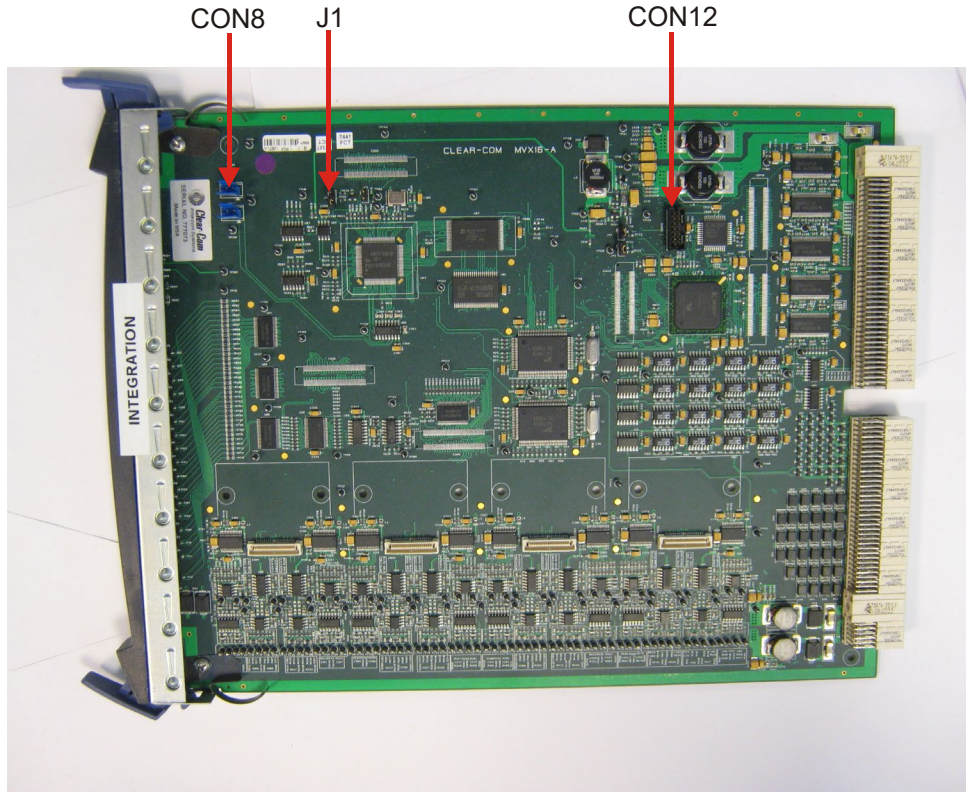

Figure 7-2: MVX-A16 MK I card: J1, CON8 and CON12
The MK 1 MVX-A16 card is **green**. – see **Figure 7-2: MVX-A16 MK I card: J1, CON8 and CON12**
Tip: For the location of connectors and jumpers on the MVX-A16 MK I card, see **Figure 7-2: MVX-A16 MK I card: J1, CON8 and CON12**
- Connect the MVX serial cable (CAB-MVX-48Z) to the **CON8** connector on the MVX-A16 card and to the PC (see **Figure 7-2: MVX-A16 MK I card: J1, CON8 and CON12**).
3. Connect the **14way IDC header** to **CON12** (see **Figure 7-2: MVX-A16 MK I card: J1, CON**).